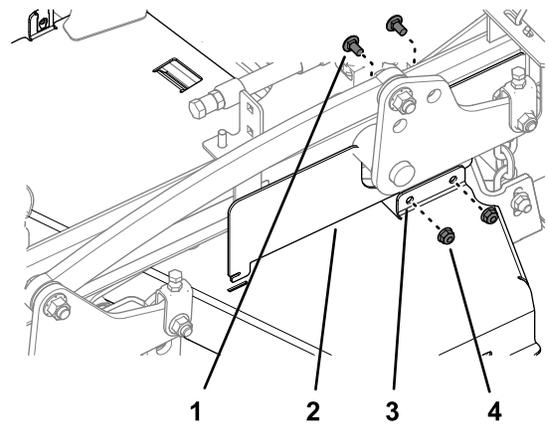

Figure 43
2. Assemble the left side CE cover to the left belt cover (Figure 43) with the 2 carriage bolts and 2 lock nuts that you removed in Removing the Left Belt Cover (page 28).